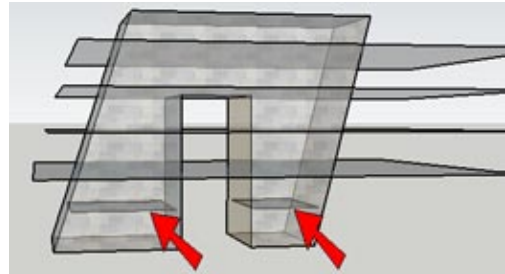

Figure 6-39
11. Close the group. As shown in Figure 6-39, you can see the floor inside the tower by switching to X-Ray view.